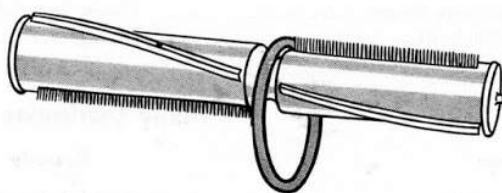

FIG. 17—An agitator and belt assembly
5. Agitator and Belt Assembly or Brush Roll and Belt Assembly. Figures 17 and 18.